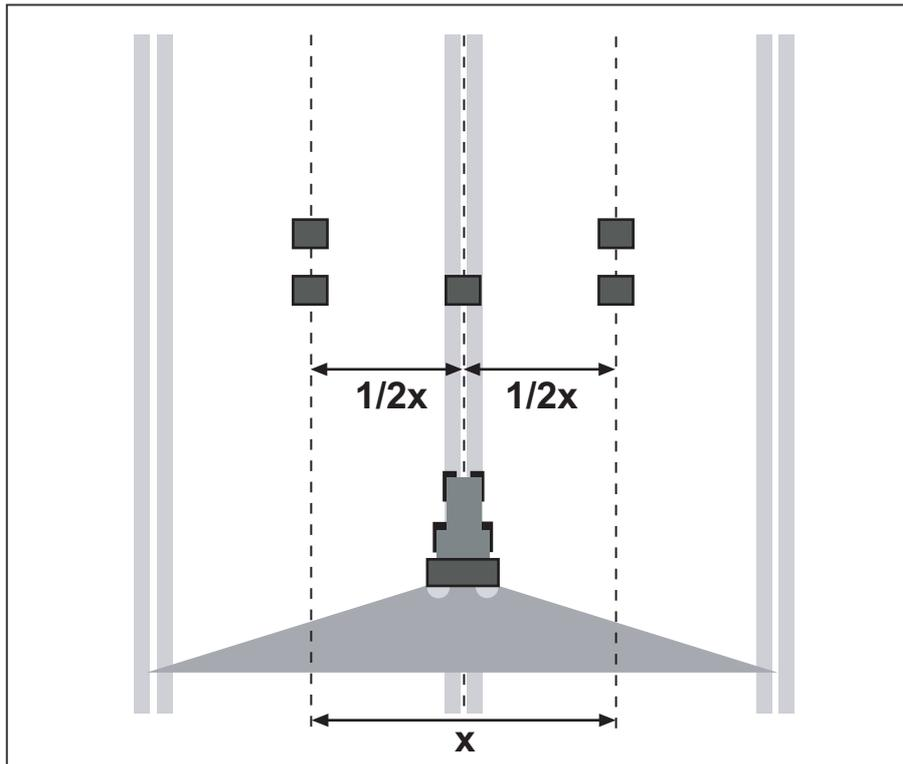

Figure 8.13: Layout for one passage
- Place two collecting vessels one after another at a distance of **1 m** in the overlap zones (between the tramlines) and one collecting vessel in the track (according to figure 8.13).